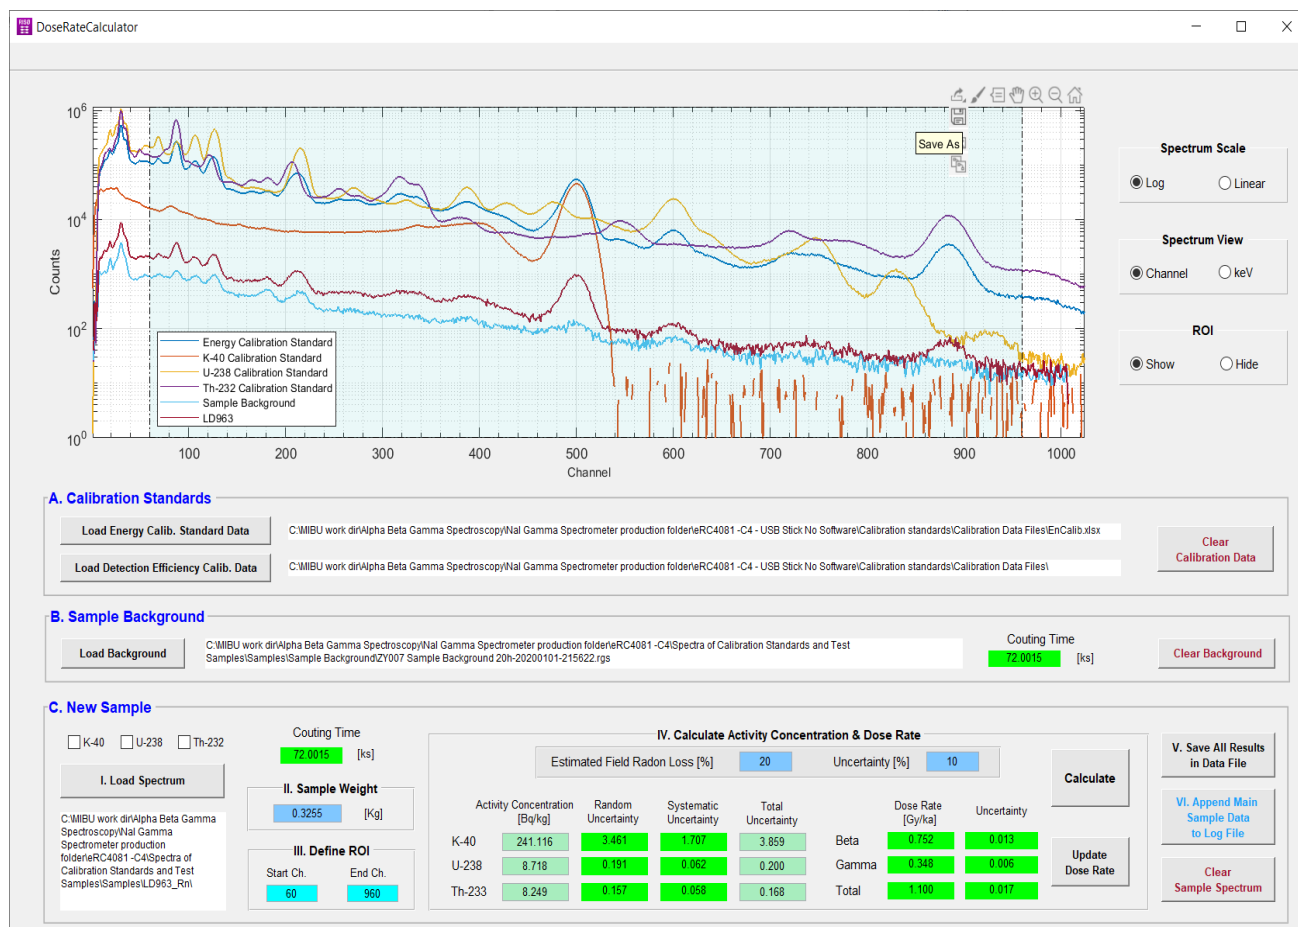

Figure 3.5: All gamma spectra are loaded and ROI is shown.
- Figure 3.5 shows the software user interface after loading all spectra and the ROI is shown (in the next page)